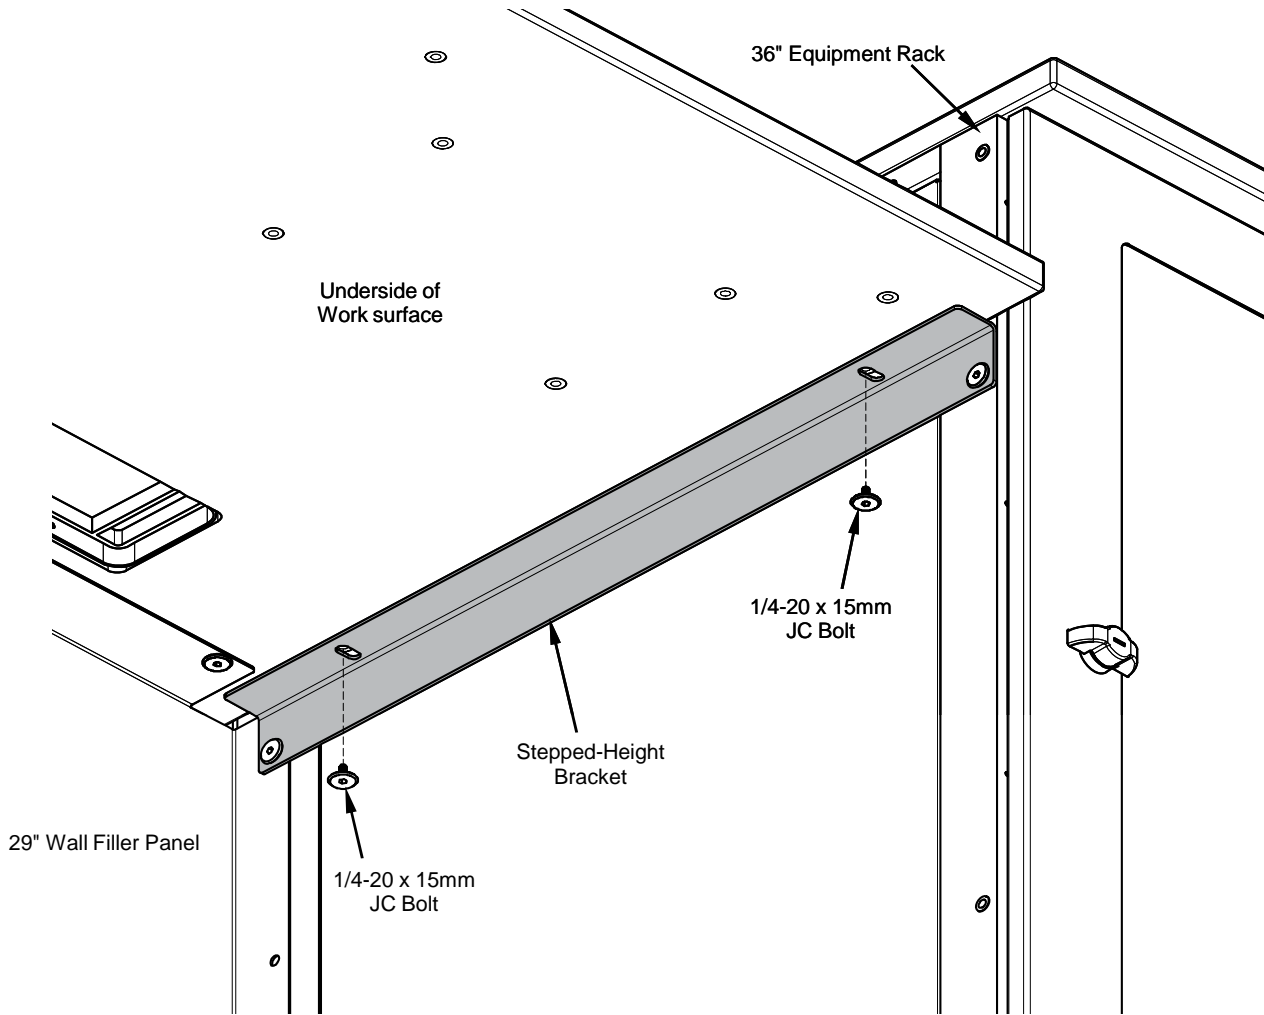

Figure 2
- A. Set the work surface onto the installed 29" wall filler panel(s) and the stepped-height bracket as shown in **Figure 2**.
B. Align the mounting holes and attach the work surface to the bracket with (2) 1/4-20 x 15mm JC bolts.